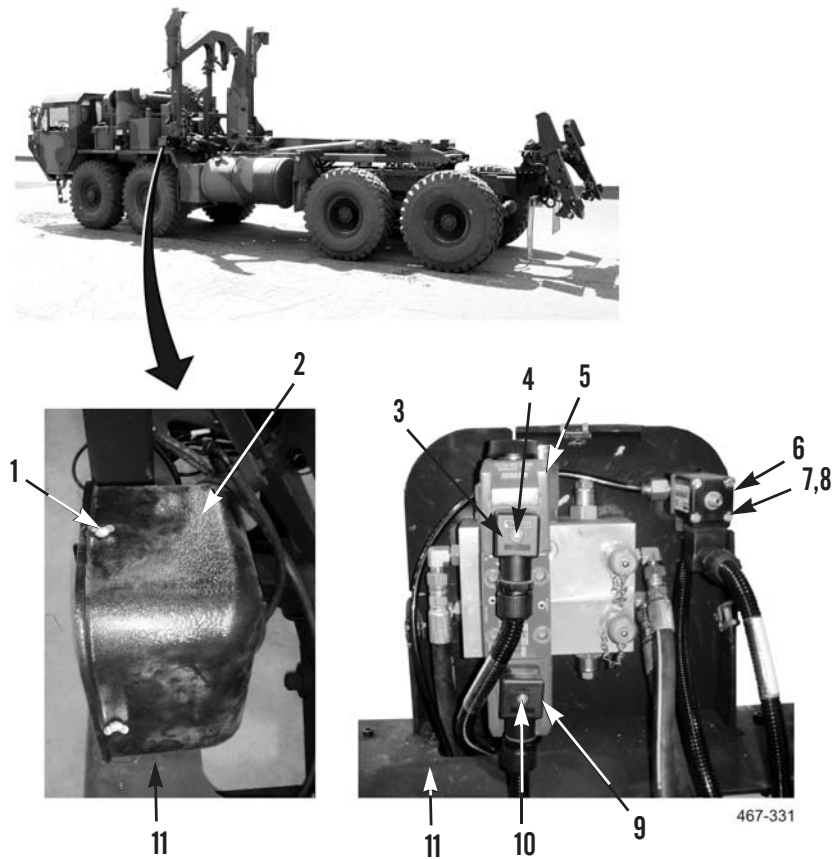

Figure 7. Disconnect Valve Harnesses.
1. Loosen three wing bolts (Figure 7, Item 1) and remove manifold cover (Figure 7, Item 2) from stowage assembly (Figure 7, Item 11).
2. Loosen screw (Figure 7, Item 4) and remove unstow harness (Figure 7, Item 3) from hydraulic valve (Figure 7, Item 5).
3. Loosen screw (Figure 7, Item 10) and remove stow harness (Figure 7, Item 9) from hydraulic valve (Figure 7, Item 5).
4. Loosen screw (Figure 7, Item 7) and remove stowage latch harness (Figure 7, Item 8) from pneumatic valve (Figure 7, Item 6).